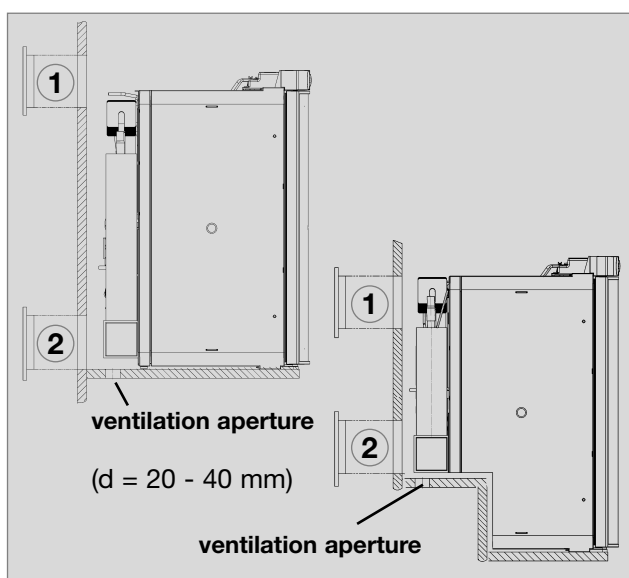

Fig. 18
Ventilation is provided for the unit by means of two apertures in the caravan wall. Fresh air enters at the bottom, extracts the heat and exits through the upper vent grille (chimney effect). **The upper ventilation grille should be positioned as high as possible above the condenser (A). Install the lower ventilation grille at floor level of the vehicle**, allowing unburnt gas (heavier than air) to escape directly into the open air. Should this arrangement prove impossible, a ventilation aperture must be introduced by the manufacturer of the vehicle into the recess floor in order to avoid the accumulation of unburnt gas on the floor (Fig.18).